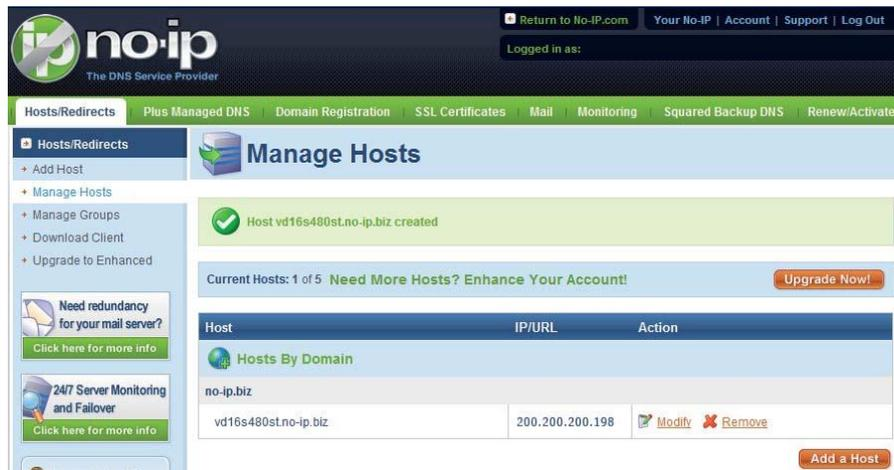

Figure 14-9
- Now you can see an interface is shown as in Figure 14-9. Here you can view domain name and the computer's current IP setup. If you already have a domain name equal to gurado trusted, you must define another name for the host.